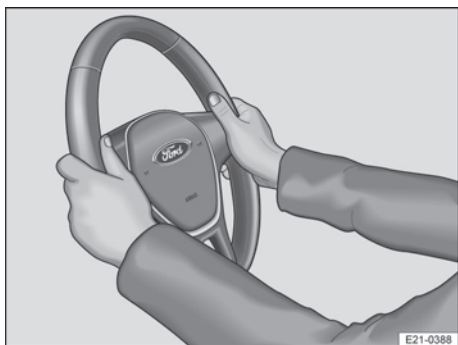

Fig. 57 On the steering wheel: 9 o'clock and 3 o'clock position.
2. Adjust the steering wheel so that you can hold it with both hands at its circumference at the 9 o'clock and 3 o'clock positions with your arms slightly bent → Fig. 57.